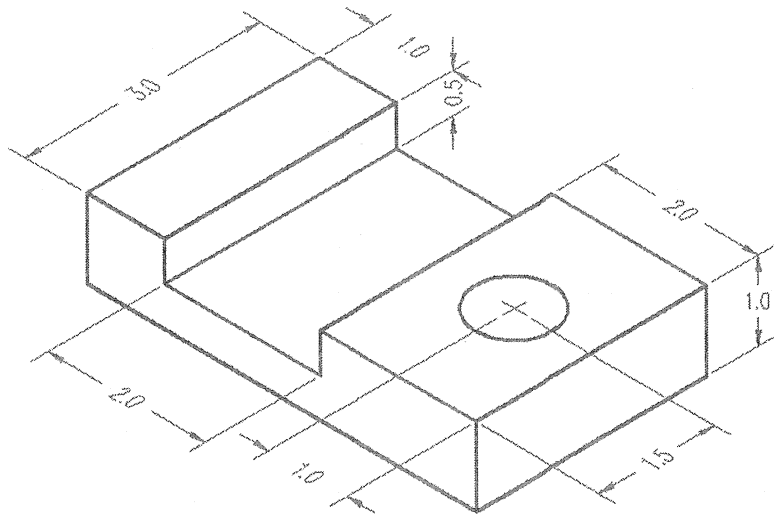

Figure Q4.
- c) Write a part program for milling and drilling operations to machine the part shown in *Figure Q4*. You may refer to *Table Q4* for relevant G codes and M codes. All dimensions are in inches. Diameter of the hole to be drilled is one inch. [4 Marks]